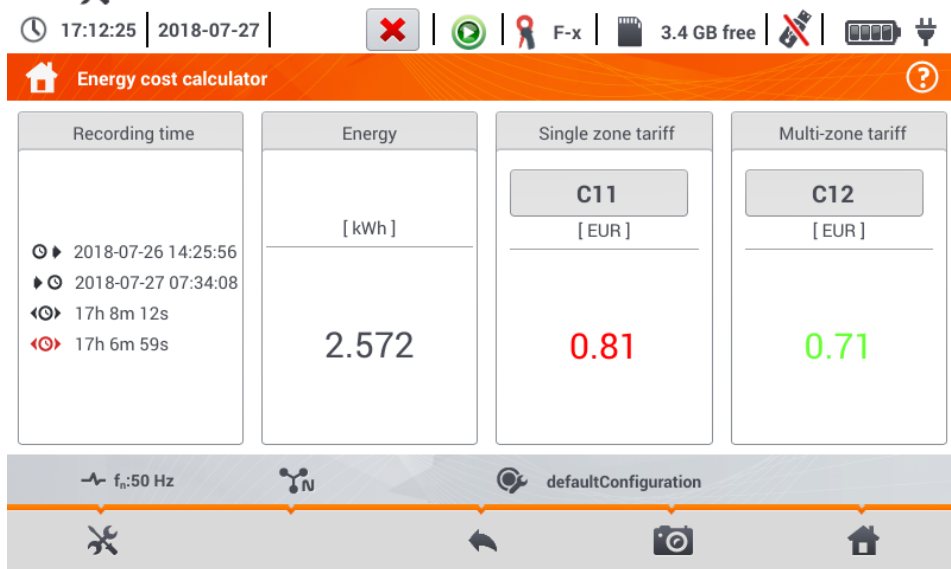

Fig. 5.25. Screen with indications of the energy cost calculator
When the parameters recorded by the recorder include active energy  $E_p$ , it is possible to calculate the energy costs according to the cost calculator set by the user. To enter the screen of the energy cost calculator, use the bar on the recording summary window (section 5.7 step ③) and select icon . The screen with energy costs will be displayed as shown in Fig. 5.25. The following sections present: